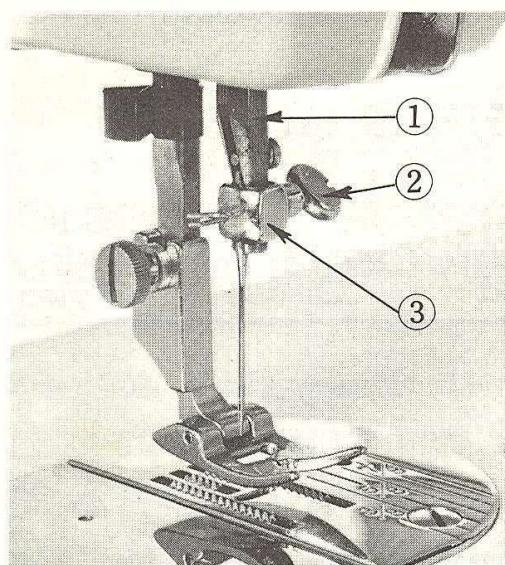

Fig. 3
See Fig. 3. Raise the needle bar ① to its highest point, turning hand wheel toward you by hand. Then loosen the needle clamp screw ② and the needle can be inserted into clamp ③.